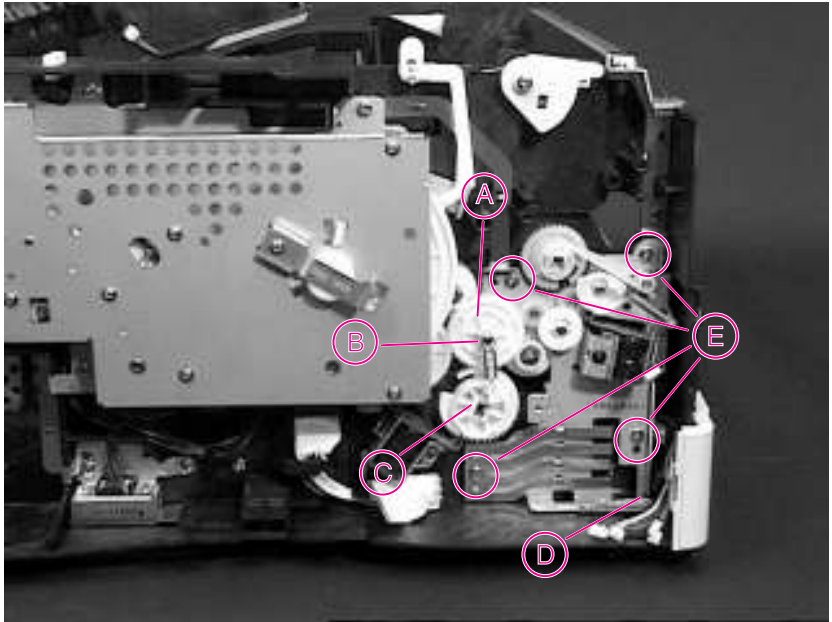

Figure 6-28
- 2 Remove the four self-tapping screws from the Gear Assembly. Figure 6-28 shows the Assembly and the location of the screws.
- 3 Release the small spring (B) on the gear.
- 2 Remove the Paper Feed Roller Clutch (C) located on the left side of the Paper Feed Roller Assembly, below the Registration Assembly Clutch. Remove the E-Clip on the clutch, and slide the clutch off the shaft. If necessary, free the cable from the retaining clip on the inside of the chassis, behind the Left Corner Cover. See Figure 6-28 on page 6-36.